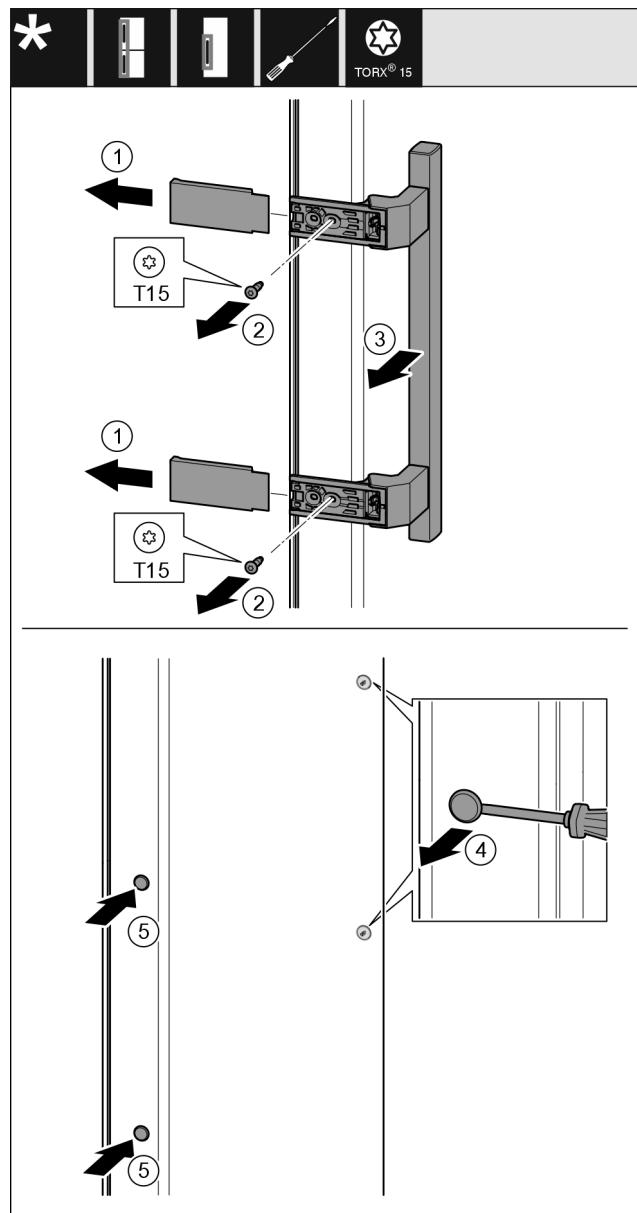

Fig. 42
- ▶ Pull off the cover *Fig. 42 (1)*.
- ▶ Turn out the screws *Fig. 42 (2)* with the screw driver.
- ▶ Remove the handle *Fig. 42 (3)*.
- ▶ Carefully lift the side plug *Fig. 42 (4)* with a slotted screwdriver and pull it out.
- ▶ Reinsert the plug *Fig. 42 (5)* on the other side.